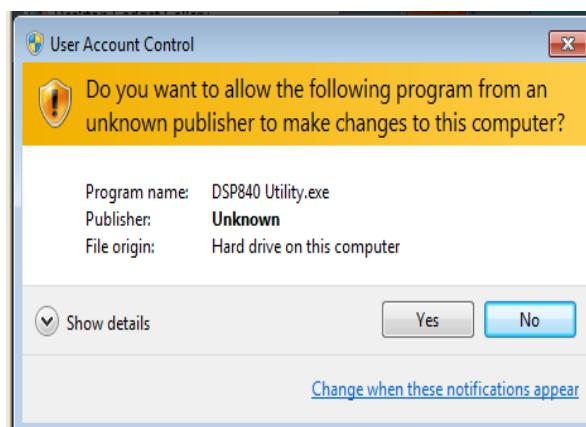

Figure 3-2.
2. Display the User Account Control dialog press Yes button. See figure 3-2.